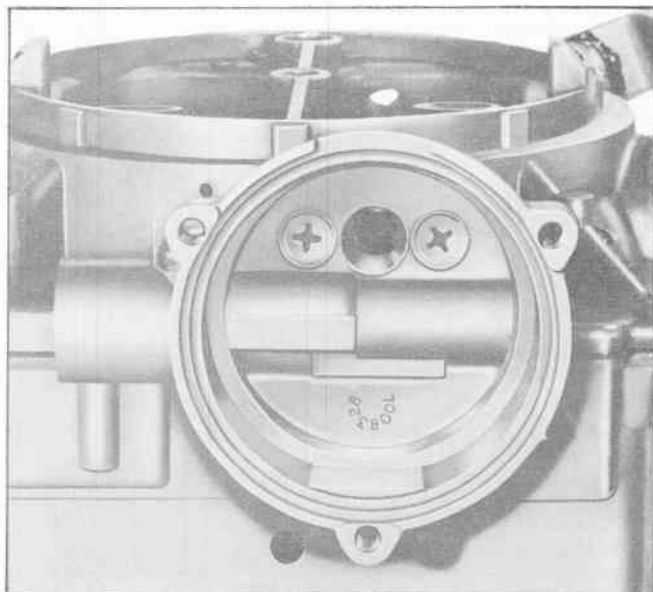

Fig. 8 Location of Choke Housing Attaching Screws
2. Remove three choke cover attaching screws and retainers and remove choke cover (Fig. 8).
9. Remove two choke housing attaching screws, and remove choke housing and gasket from air horn (Fig. 8).